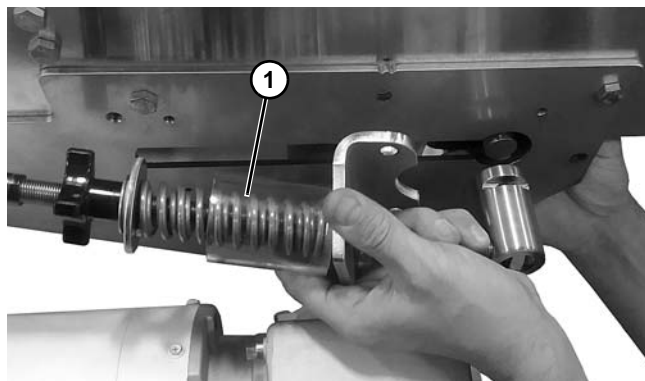

Figure 55
14. Remove tension assembly (**Figure 55, item 1**) on both sides of the center drive.